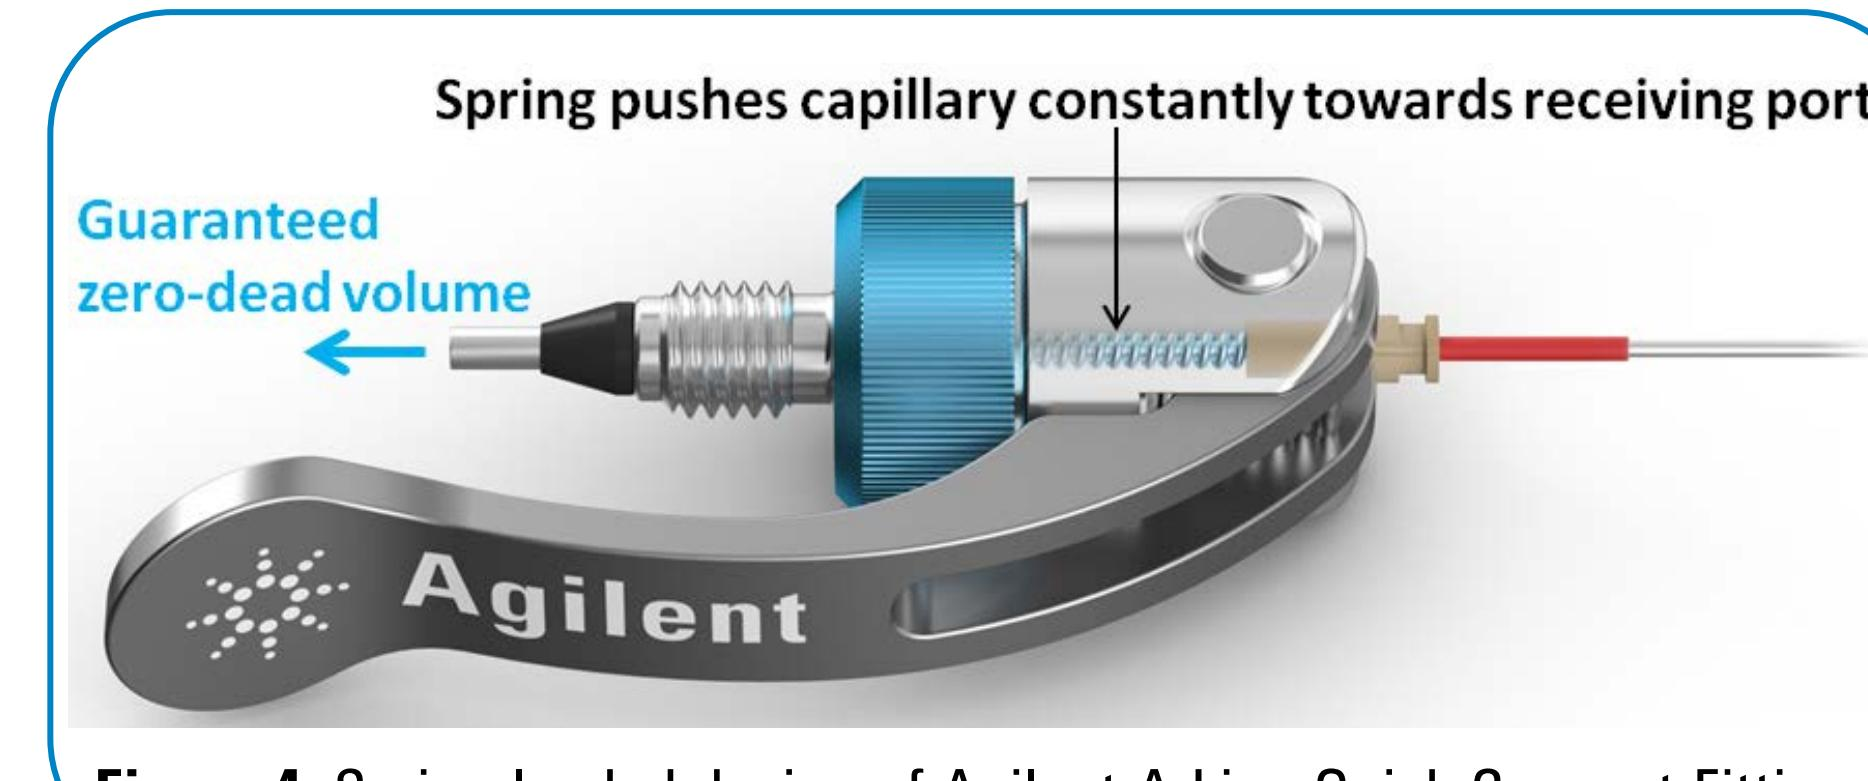

Figure 4. Spring-loaded design of Agilent A-Line Quick Connect Fitting.
- The novel **spring-loaded design** (Figure 4) constantly pushes the tubing against the receiving port, delivering a reproducible connection with no dead volume for consistent chromatographic performance